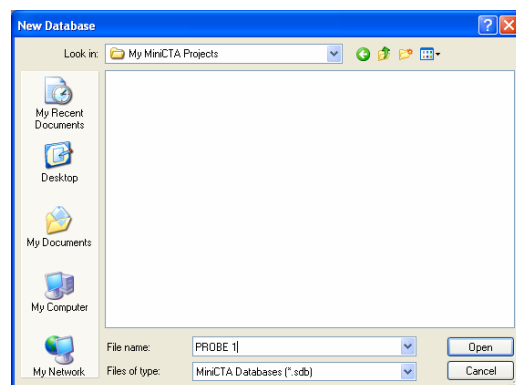

Figure 2: Create a new Database
2. Choose an adequate Database description e.g. Probe 1 and choose “Open” to create the Database as shown in Figure 2.